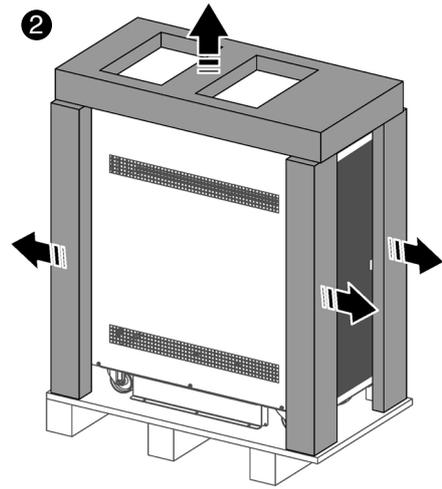

Fig. 23. Removal of the corner pieces and plastic cover.
- 2 Remove the corner pieces and the plastic cover (Fig. 23).